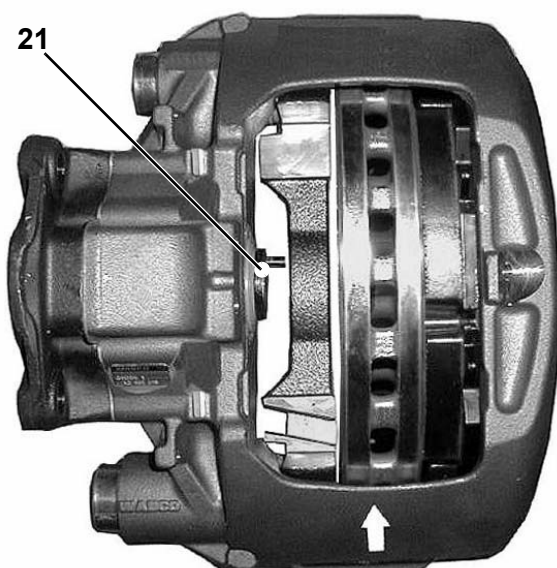

Fig. 51
- Secure adjuster screw (21) against turning (arrow fig. 51) and screw out the adjuster screw approx. 30 mm by turning the adjuster hexagon anti-clockwise with a ring spanner.